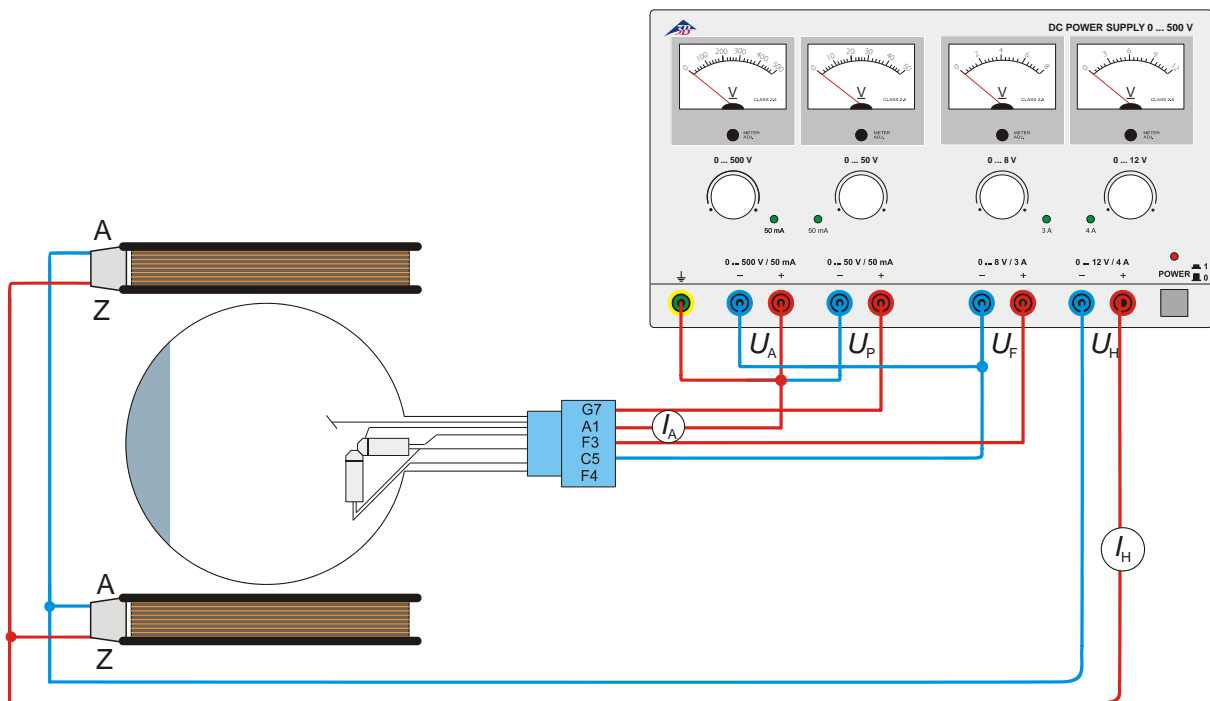

Fig. 3 Determining  $e/m$  using the axial electron gun
- Connect up the tube as in Fig. 3.